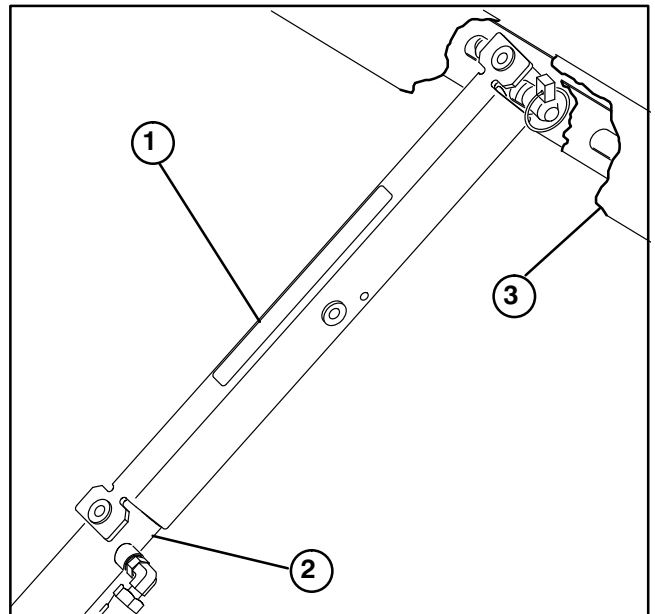

Figure 27
3. Push bed support onto cylinder rod, making sure support end tabs rest on end of cylinder barrel and on cylinder rod end (Fig. 27).